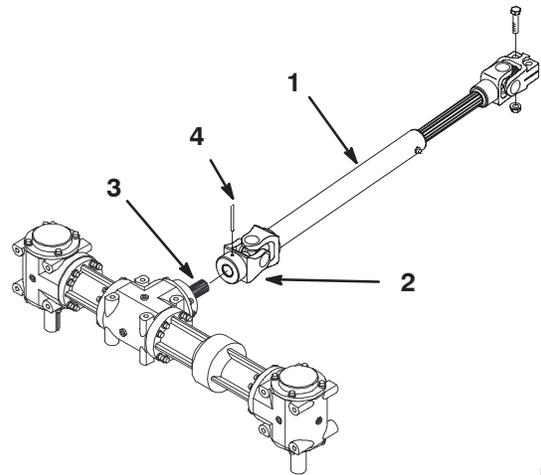

Figure 27
14. Drive roll pin through hole in PTO drive shaft to separate from gearbox shaft (Fig. 27).